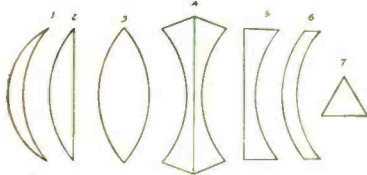

Fig. 1. The various forms of lenses employed in microscopes.
THERE are six different types of lenses: (1) Convexo-concave (also called "Meniscus"); (2) Plano-convexo; (3) Double convexo; (4) Double concave; (5) Plano-concave; (6) Concave-convex. The mere names of these lenses are probably a sufficient description, but reference to Fig. 1 will illustrate their characteristics and before leaving the listing of basic types of lenses, prisms